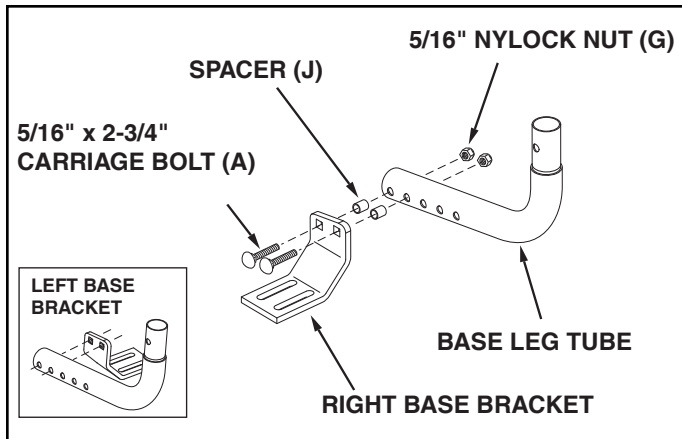

FIGURE 6
STEP 6: (SEE FIGURE 6)
- Attach the right base bracket to the front holes of a base leg tube that does not have a flattened end, using two 5/16" x 2-3/4" carriage bolts (A), two spacers (J) and two 5/16" nylock nuts (G). **Make only finger tight.** Repeat for the left base bracket.